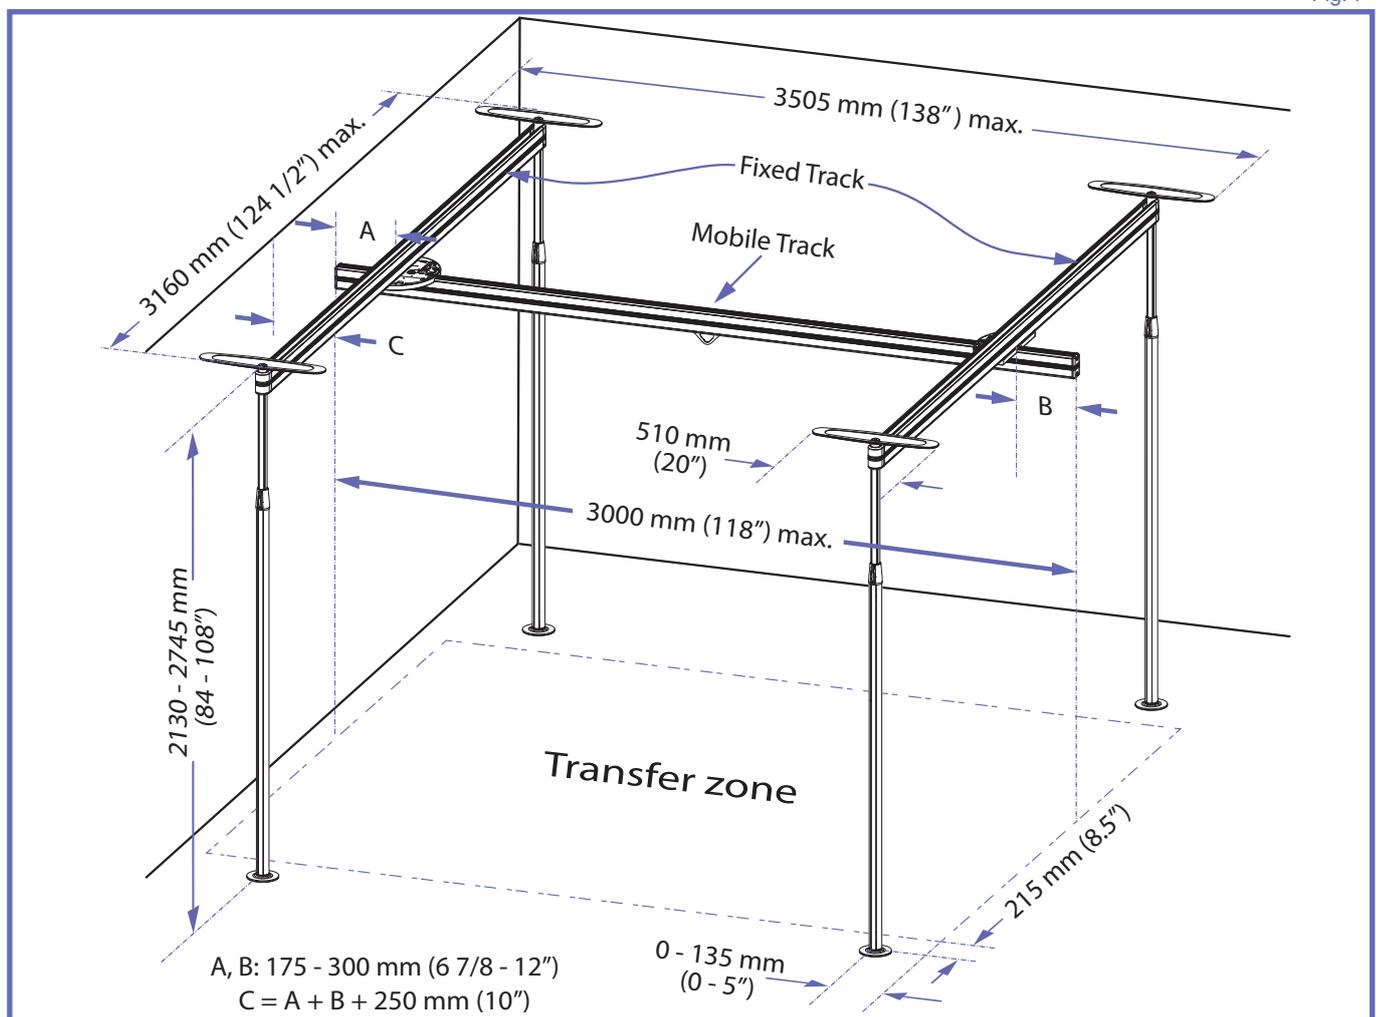

Fig. 5
- 3) Referring to Fig.5, determine the location for the four posts considering the following: